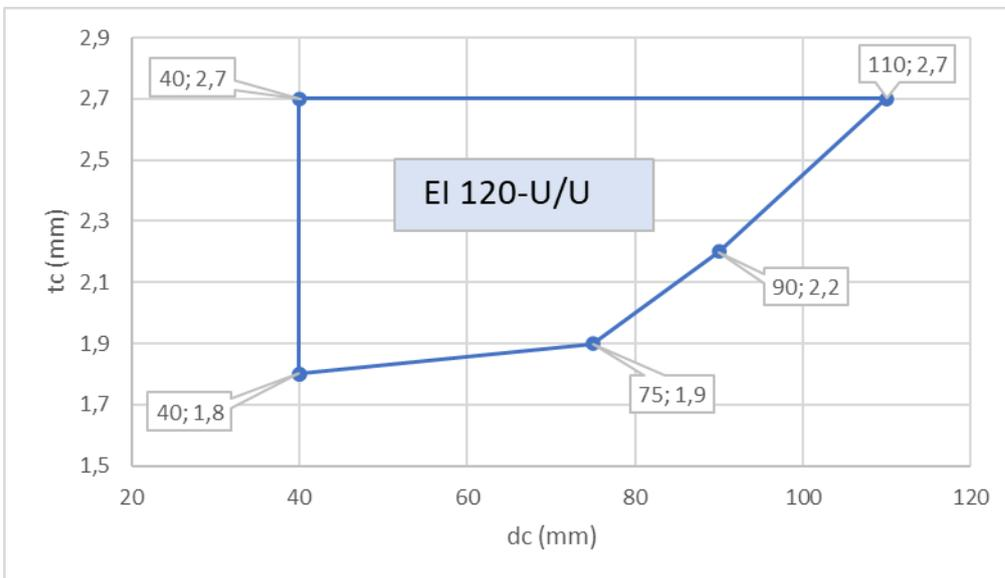

Figure 83: Classified pipe range of PP-pipes with coupling in DG1 in rigid wall
- For pipe dimension refer to Figure 83